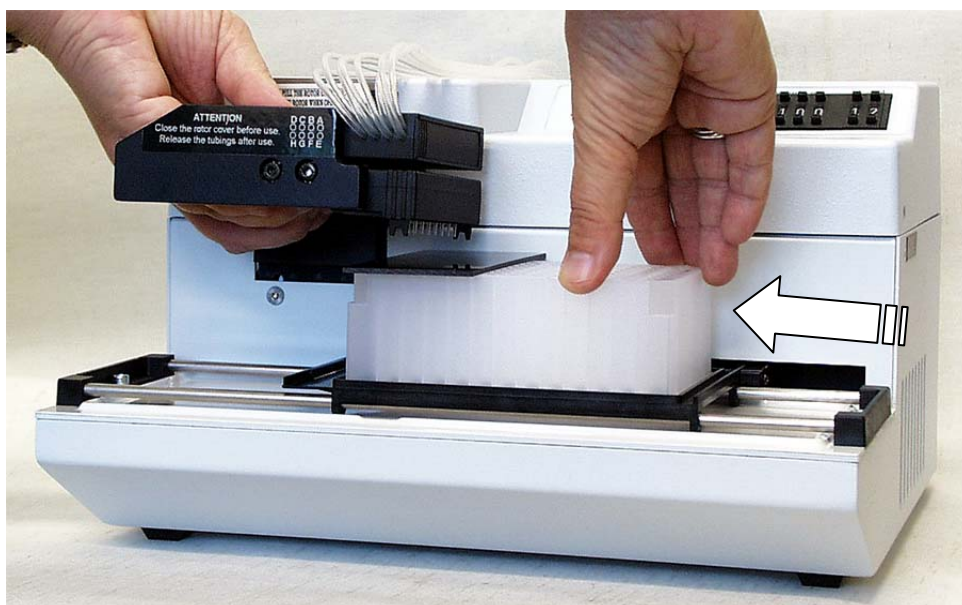
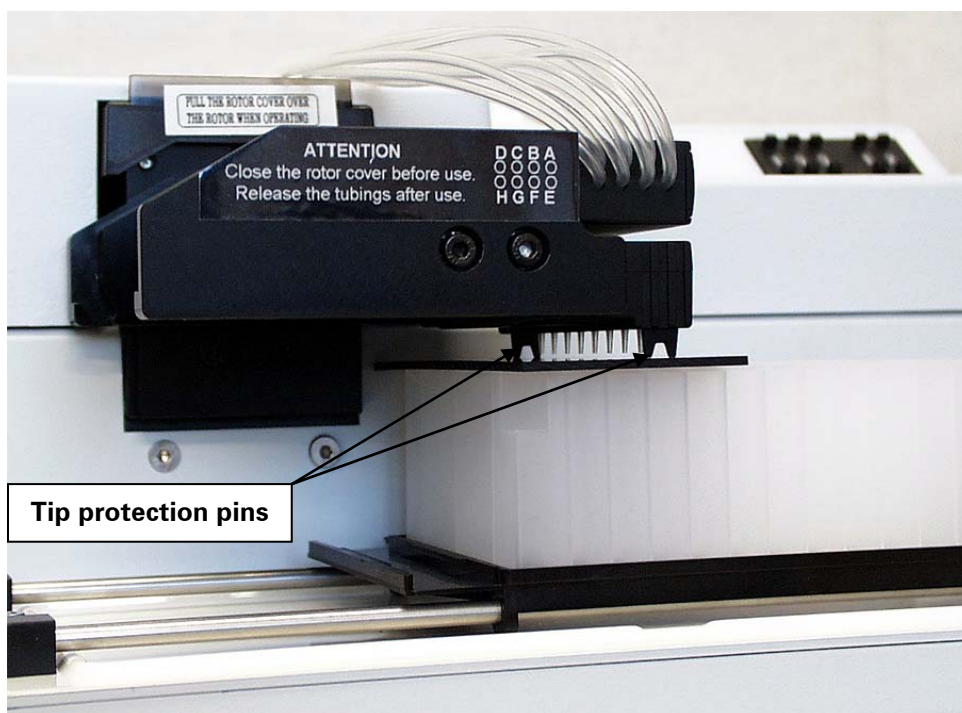

Fig. 6.20 Moving the deep-well plate under the dispensing cassette
Fig. 6.21 Tip protection pins resting on the adjustment plate
7. Lift the pump rotor and manually move the deep-well plate and the adjustment plate carefully under the dispensing cassette (Fig. 6.20), so that the tip protection pins rest on the adjustment plate (Fig. 6.21).
The adjustment plate corresponds to the distance with which the tips and deep-well plate must be separated. The tip protection pins rest on top of the adjustment plate when the distance is correct. There is only an extremely narrow gap between the tips and the adjustment plate (Fig. 6.21).
8. When the pump rotor height has been adjusted, tighten the adjustment screws (*Fig. 6.22*). Ensure that the pump rotor height is correct by placing the deep-well plate and the adjustment plate again under the dispensing cassette (*Fig. 6.21*).